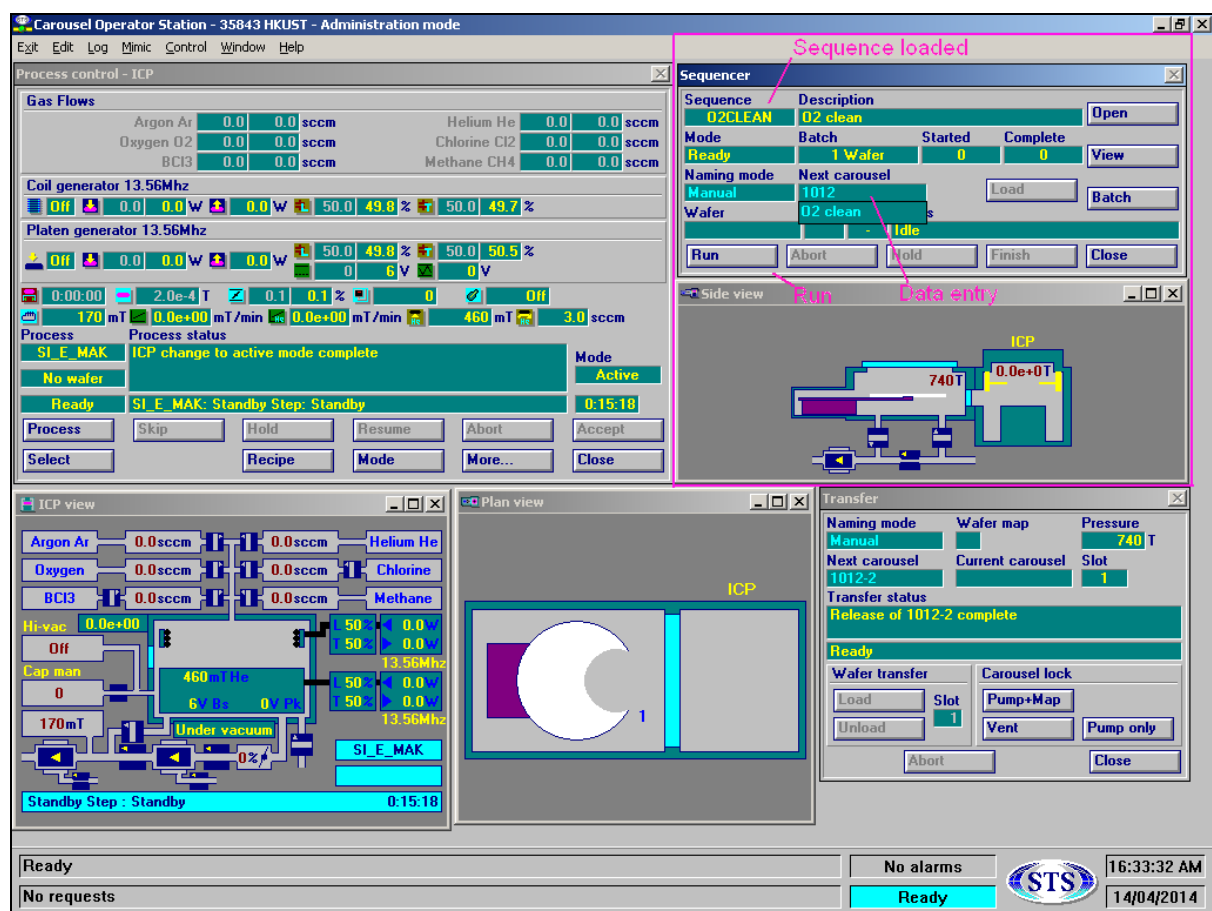
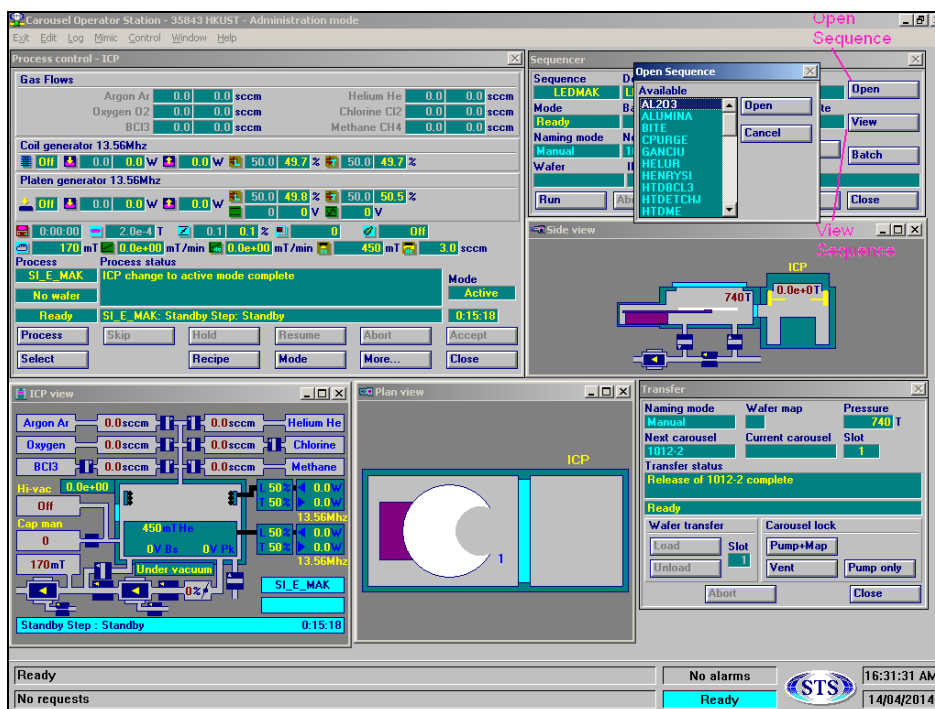

Fig.18 Process sequencer
Fig. 19 Sequence selection menu
The process sequencer provides the means to run a process automatically. It monitors and controls wafer movement through the system as defined by the selected sequence (Fig.18).
- **Open:** The “Open” key is used to open the sequence loader pull down menu (fig.19), and the sequence can be selected.
However, if you cannot find a sequence that contains the recipe you want to use, or you do not know how to setup a sequence, please consult NFF staff. Be careful, running a sequence contains wrong recipe will get unexpected result. Therefore, user must confirm the selected sequence name in the screen (Fig.18) before running a sequence.
Refer to section 6.2, in Sequencer screen, click **OPEN** to open the sequence files, and select the right sequence to be use (Fig. 19). To check details of the loaded sequence, click **VIEW** to open the sequence editor, which provide you the information of the recipe inserted. If you cannot find a sequence that contains the recipe you want to use or don't know how to create your own recipe sequence, please consult NFF staff. Please be reminded running a sequence contains wrong recipe will get unexpected result. Therefore, user must confirm the selected sequence in the screen (Fig.18) before running a sequence.